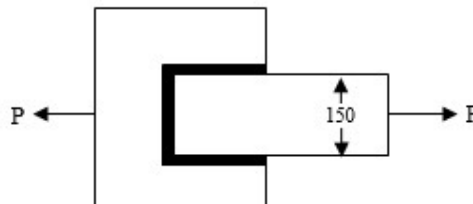

Fig. 2
- Q.6(b) A steel plate, 150 mm wide and 12 mm thick, is joined with another steel plate by means of single transverse and double parallel fillet welds (Fig. 2). The strength of the welded joint should be equal to the strength of the plates to be joined. The permissible tensile and shear stresses for the weld material and the plates are 80 and 60 N/mm², respectively. Find the length of each parallel fillet weld. [8]